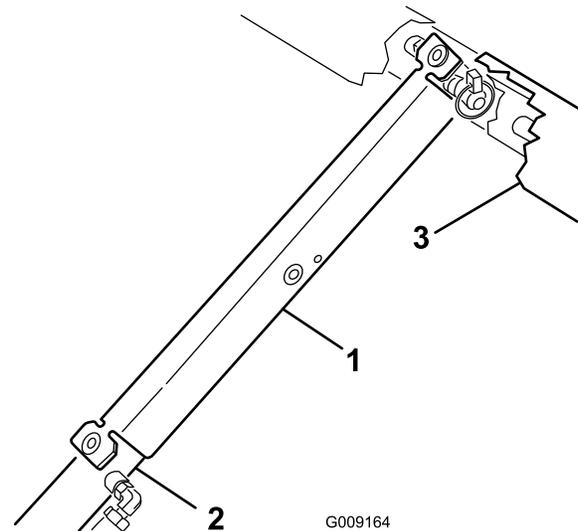

Figure 24
3. Push the bed support onto the cylinder rod, making sure the support end tabs rest on the end of cylinder barrel and on the cylinder rod end (Figure 24).